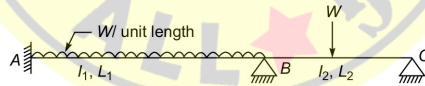

Fig. Q. 42
42. For the analysis of continuous beam shown by the slope deflection method, the conditions to be used are (Ref. Fig. Q. 42)